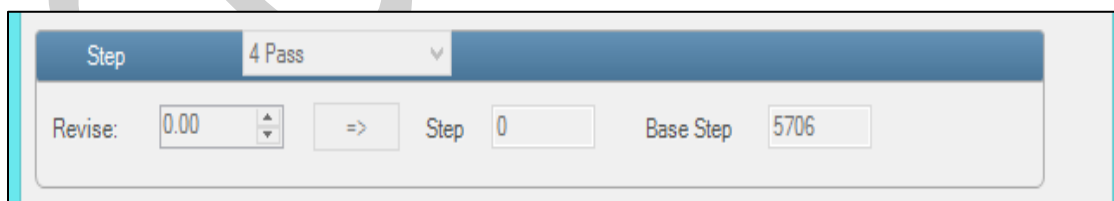

Fig 26: The Step Calibration Parameters
**Step 1:** Select the desired pass from the list and click on the **Print** button (Refer to Fig 26).
**Step 2:** Feed the correction value in the **Revise** field (the correction value up to two decimal places) (Refer to Fig 26).
**Step 3:** Click on the => icon (Refer to Fig 26) on the Step Calibration window. The correction value result will be reflected in the **Step** field (Refer to Fig 26). The same step value will also be displayed in the **Steps** field on the **Quick Access Toolbar**.